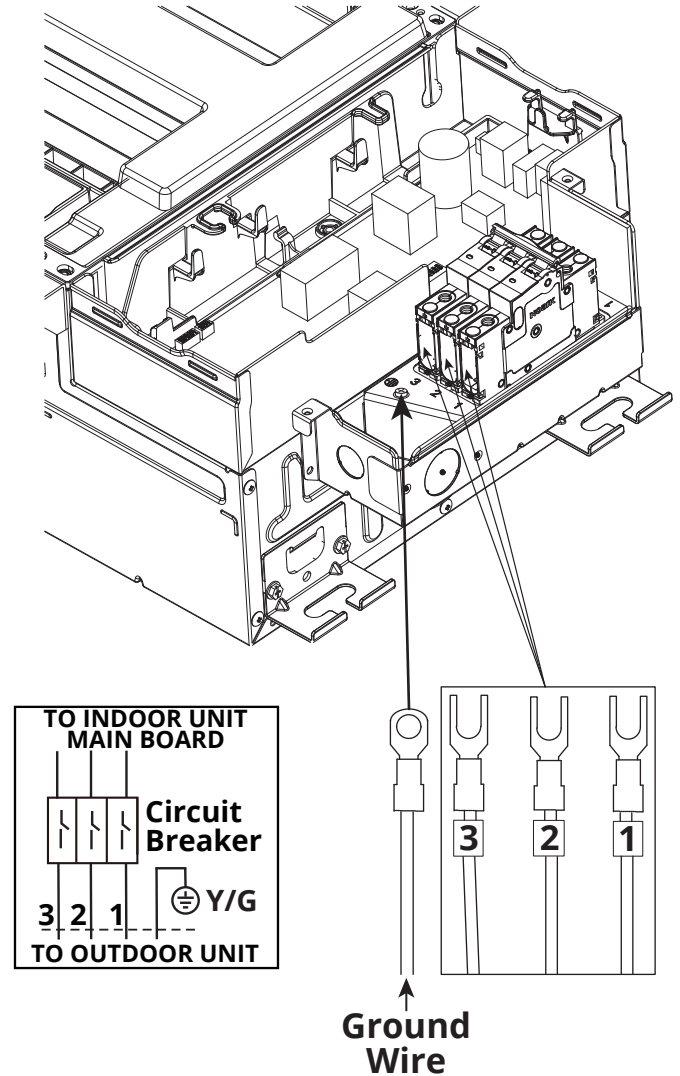

Fig. 5.10
3. Now, you will connect the wires of the DIYPRO™ Cable to the terminals of the circuit breaker box. There are 4 wires, 3 of them will be labeled 1, 2, and 3. The 4th wire is a ground. The numbered wires will correspond to the numbered terminals of the circuit breaker box. Securely connect each wire to the corresponding terminal. Then, securely fasten the ground wire to the screw on the metal plate in front of the circuit breaker terminals. Please refer to Fig. 5.10 below.